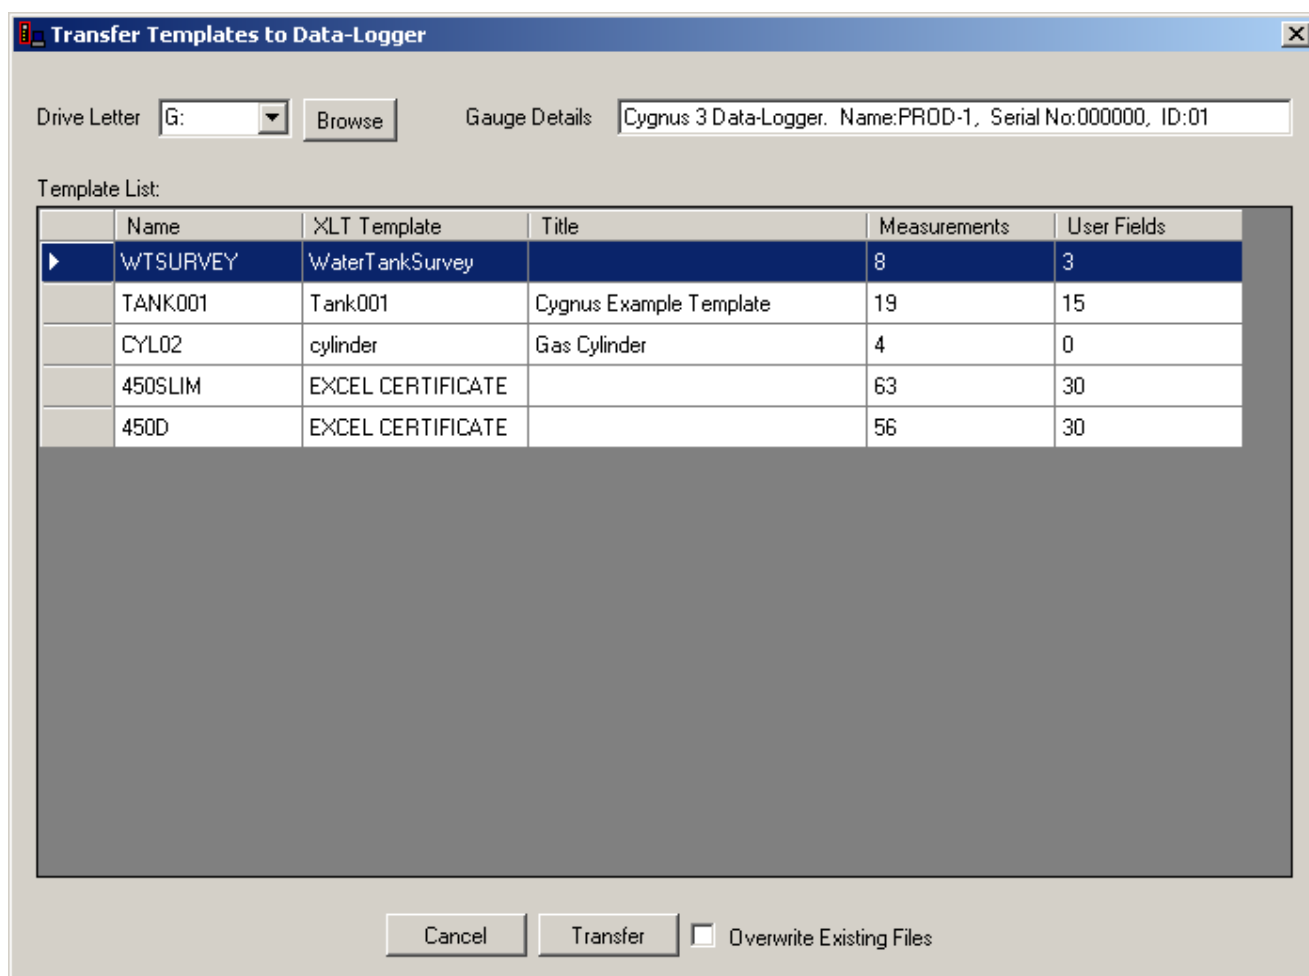

Fig. 11.10. Transfer Templates to Data Logger dialog.
4. You should see the **Transfer Templates to Data-Logger** dialog, fig. 11.10.